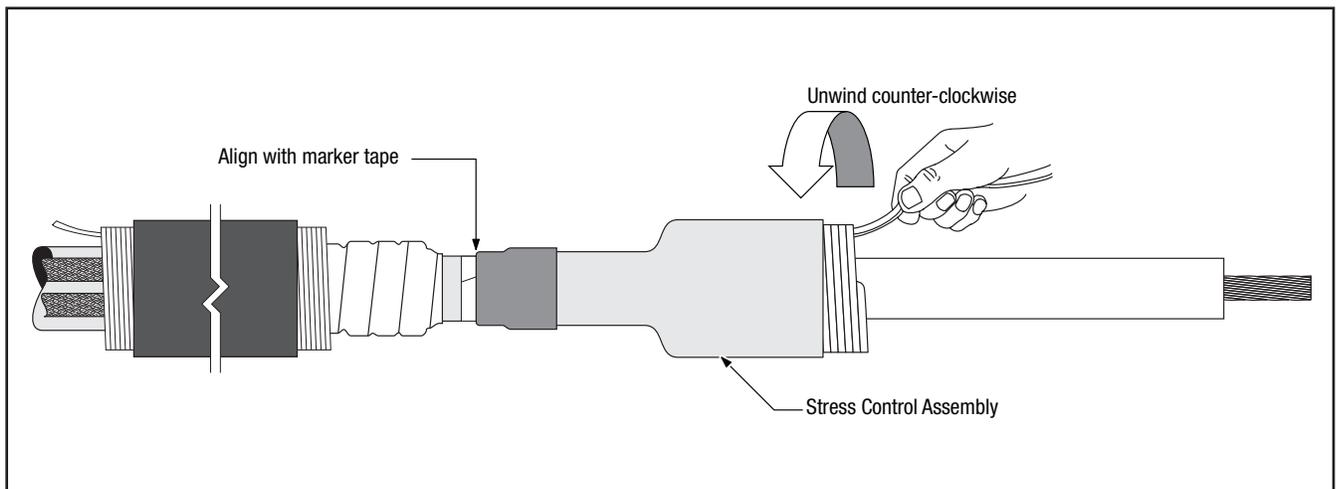

Figure 13
4.4 Select the Stress Control Assembly (medium length tubular assembly on white core) from the kit. Slide the Stress Control Assembly over the cable with the loose core end toward the cable end. Align the Stress Control Assembly Tube (not the core) with the marker tape, and remove the core by pulling the loose end while unwinding counter-clockwise. (Figure 13)